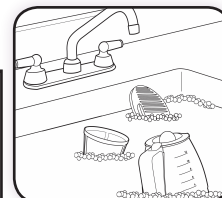

Figure 27
- 2 Never use abrasive cleansers, steel wool pads or other abrasive materials. Dishwasher top rack safe parts: Carafe and lid, Removable Filter Basket and Reusable Filter. The Water Filtration Frame and Disk are not dishwasher safe. (Figure 27)